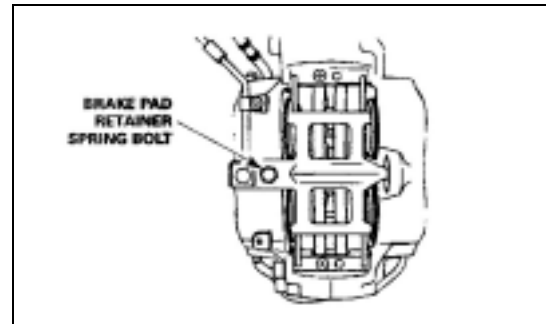

Figure 21
4. Install the brake pads. Ensure that the friction surface is against the rotor. Install the pad retainer spring and tighten the bolt to 30 lb-ft (40 N•m) of torque. **Figure 21.**